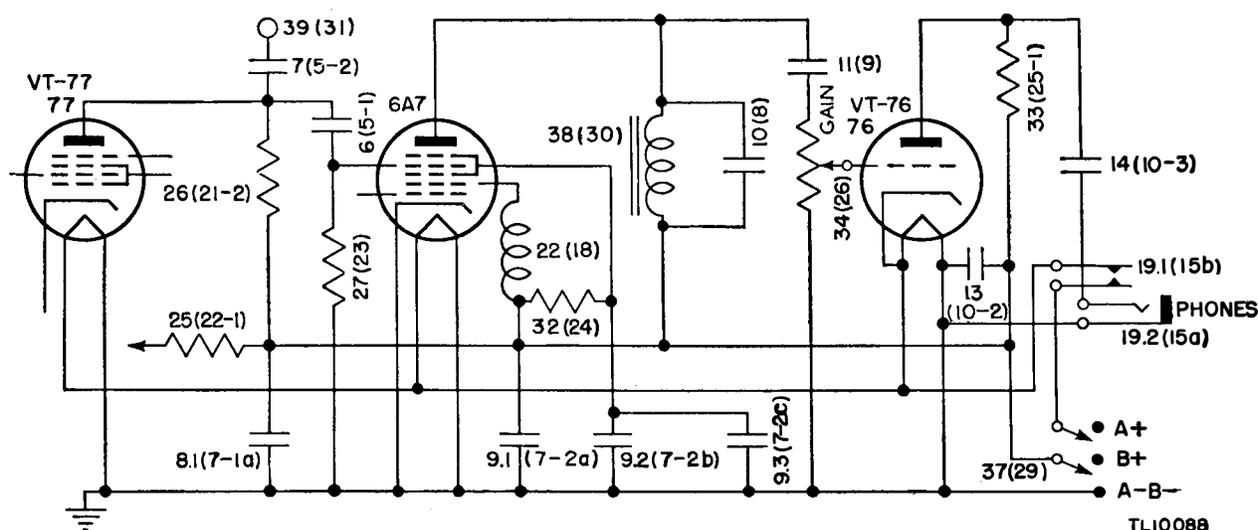

Figure 30. Frequency Meter BC-221-(1), functional diagram, detector and audio-amplifier circuits.
(2) At the CRYSTAL ON position, the output of oscillator Tube VT-77 is applied to one of the grids of detector-converter tube 6A7 where it is mixed with the output frequency of the crystal circuit. The result is a frequency equal to the difference of the two and is used to adjust the frequency of the oscillator with the CORRECTOR control.
(3) At the CRYSTAL OFF position, the variable frequency oscillator is in operation, while the crystal oscillator is not. If the antenna is in position, the frequency meter may be used to receive or send any frequency in its range; that is, it may be used as a radio receiver or transmitter.
It has been stated that the three inner elements of the type 6A7 tube are used in the crystal oscillator circuit. The remaining elements of this tube (comprising the control grid, screen grid, and plate) are used as a high gain screen grid detector to which, by tube structure, the crystal oscillator is electronically coupled. (See fig. 30.) The r-f voltage, developed across load resistor 26 (21-2) in the plate output circuit of the variable frequency oscillator, is coupled to the control grid of this detector through a small fixed capacitor 6 (5-1). Antenna plug 39 (31), mounted on the chassis, is also coupled to the control grid of the detector, through coupling capacitors 7 (5-2) and 6 (5-1) in series. Resistor 27 (23) is the detector tube grid leak. As a result of these couplings to the control grid, the detector mixes the variable frequency oscillator output with the fundamental and successive harmonics of the crystal oscillator, when the CRYSTAL switch is in the ON position and with the radio transmitter frequency to be measured, when the CRYSTAL switch is in the OFF position. When the CRYSTAL switch is thrown to the OFF position, crystal 23 (19) and its shunt resistor 31 (21-3) are short-circuited and the inner grid